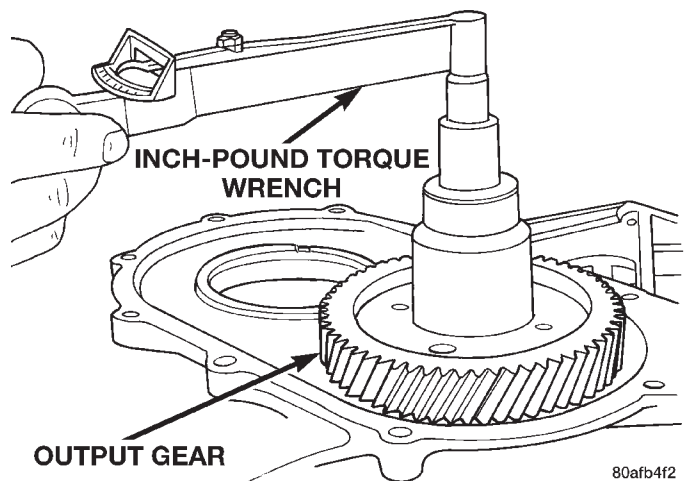

Fig. 245 Check Output Gear Bearings Turning Torque
(10) Using an inch-pound torque wrench, check the turning torque (Fig. 245). **The torque should be between 3 and 8 inch-pounds.**